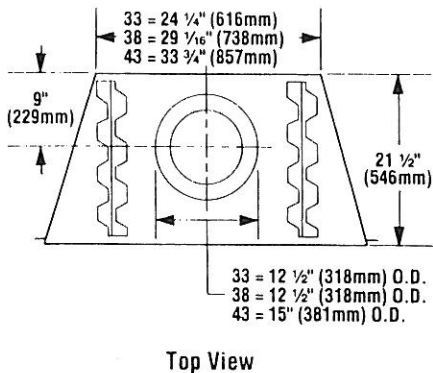

Figure 12
**Step 6.** Attach the chimney collar enclosure kit, Model CCEK, around chimney collar with the screws provided (Figure 12).